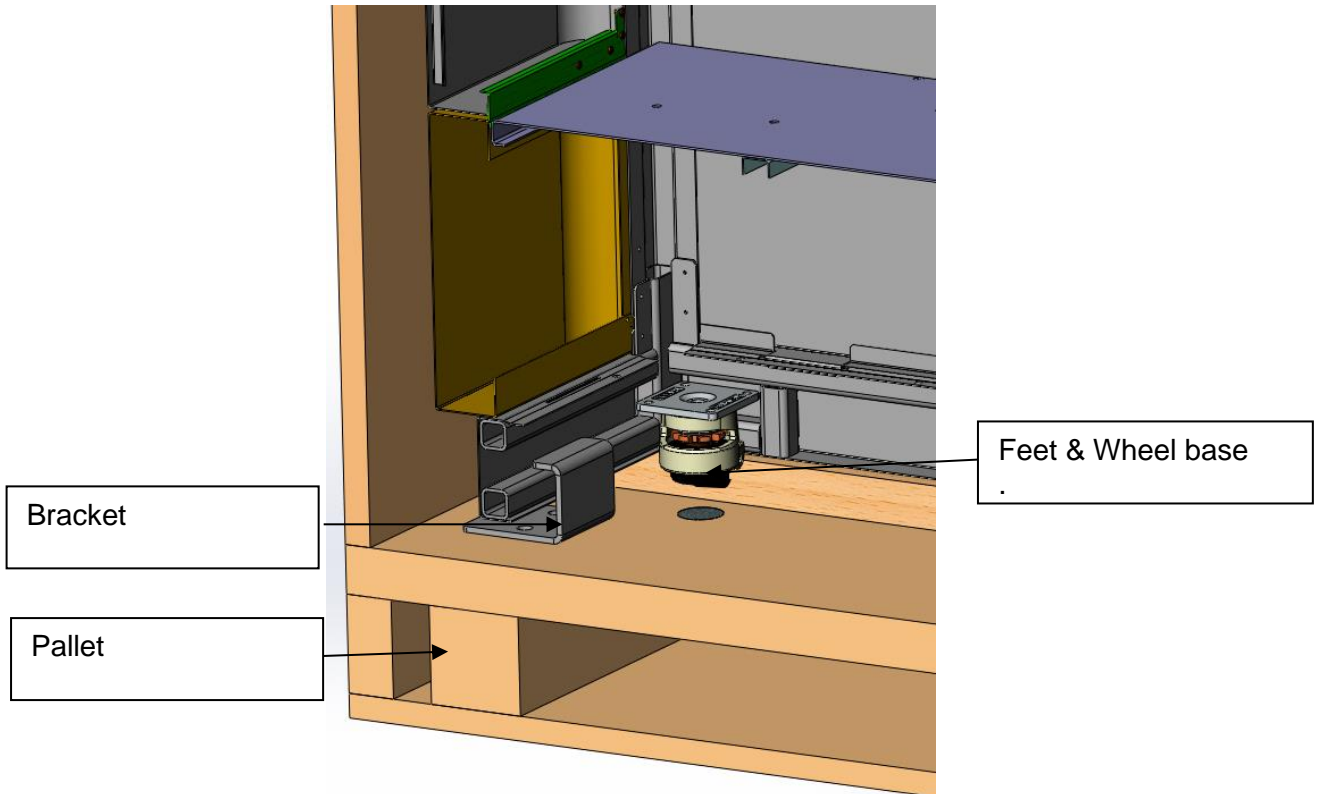

Figure 54 – PlazMax Sterilizer Hooking Bracket to Pallet
3. Remove all the fixing screws that hold the 4 brackets that secure the machine to the pallet.(See Figure 54)